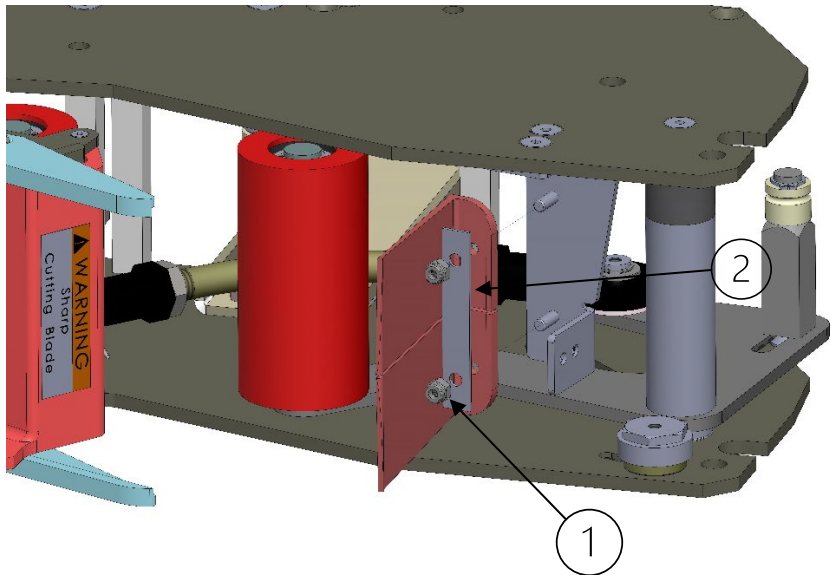

Figure 10-19
4. Fasten to the M4 PEM studs with the washer and nylon lock nuts as they were at the beginning. **Figure 10-19**